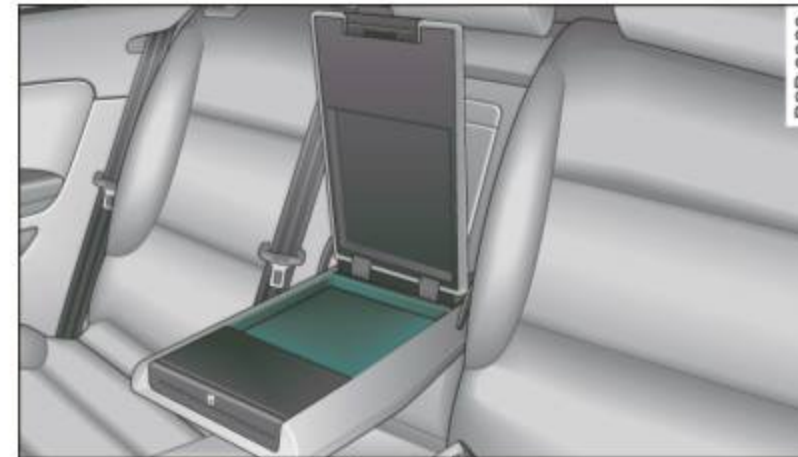

Fig. 78 Center of the rear seatbench: rear armrest folded down
- Pull the armrest down on the front ⇒ fig. 78.